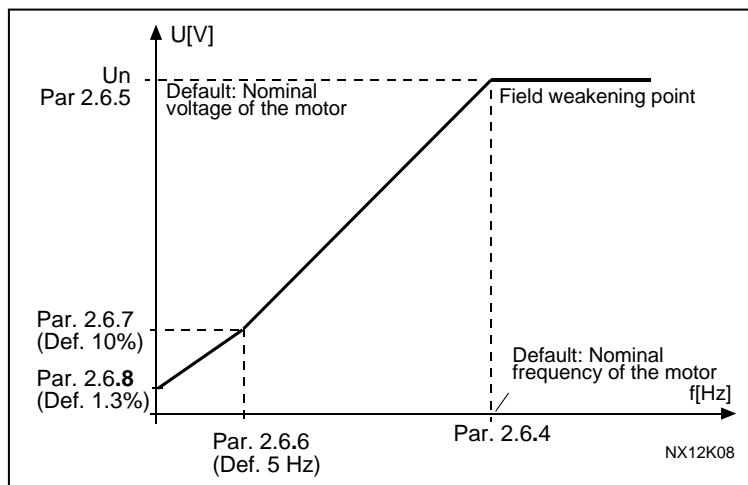

Figure 24. Programmable U/f curve
- 2 The U/f curve can be programmed with three different points. Programmable U/f curve can be used if the other settings do not satisfy the needs of the application. See Figure 24.
If the programmable U/f curve has been selected with the parameter 2.6.3 this parameter defines the middle point frequency of the curve. See Figure 24.
If the programmable U/f curve has been selected with the parameter 2.6.3 this parameter defines the middle point voltage of the curve. See Figure 24.
If the programmable U/f curve has been selected with the parameter 2.6.3 this parameter defines the zero frequency voltage of the curve. See Figure 24.